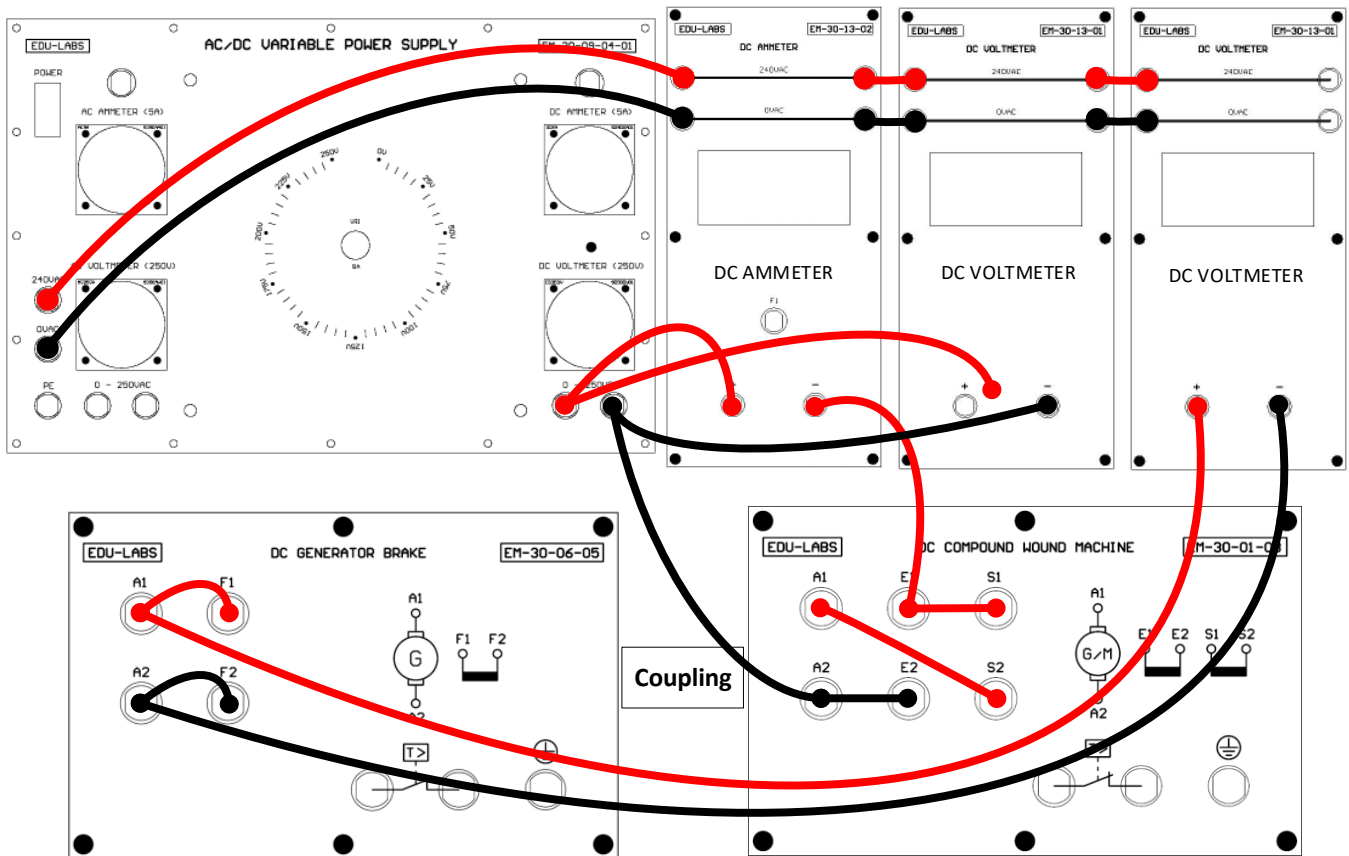

Fig 5-3: Wiring Diagram
2. Connect as shown in Fig 5-3